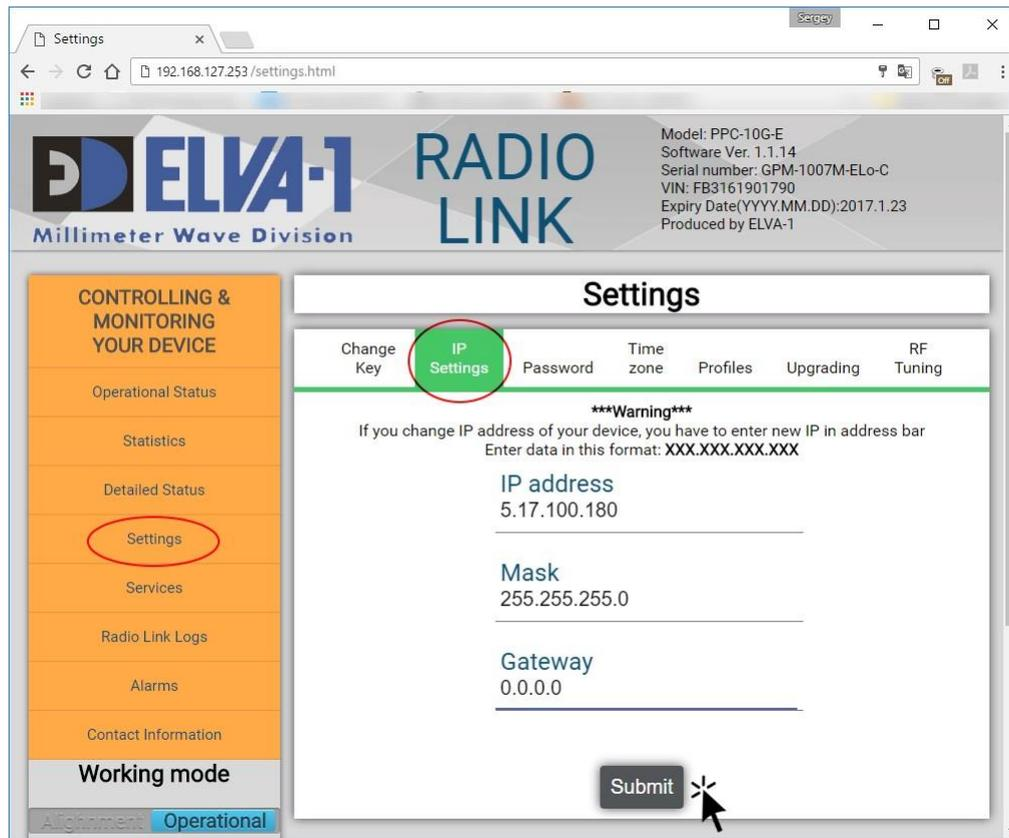

Figure 10: Assign actual IP settings for the rad
- Change IP address of this radio from default to actual one. For this, choose **Settings** on left menu and **IP Settings** tab at top (Fig.10). Enter the IP parameters of your choice (could use default **Mask** 255.255.255.0 and default **Gateway** 0.0.0.0). Click **Submit** button.